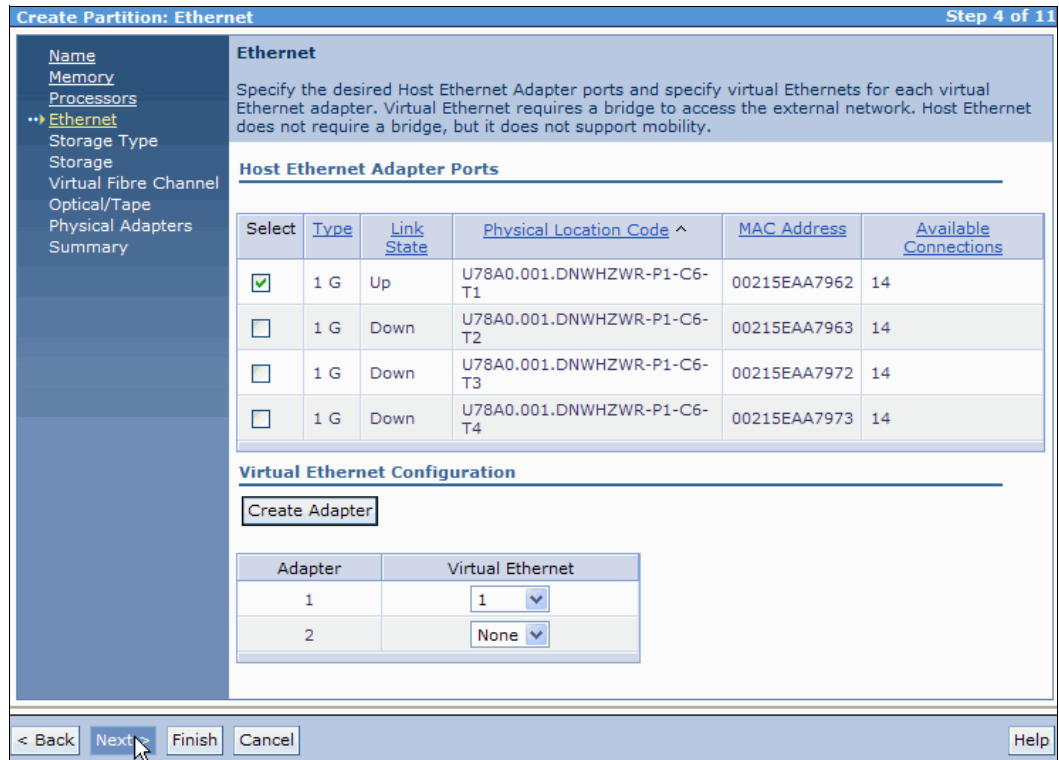

Figure 4-40 Create Partition: Virtual Ethernet and Host Ethernet Adapter
- Each partition has two virtual Ethernet adapters that can be configured to one of the four available virtual Ethernet connections. In Figure 4-40, adapter 1 uses virtual Ethernet ID 1. If your system has a Host Ethernet Adapter (HEA), the HEA ports section opens. If you want to use a virtual port from an HEA, check the wanted HEA port check box.